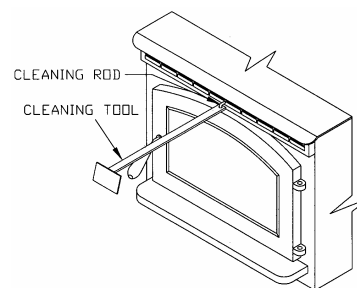

FIGURE 24
- With the door closed clean heat exchanger tubes. (See **"CLEANING"** and Figure 24).
- Heat Exchange Tubes** – Your Breckwell stove is designed with a built-in heat exchange tube cleaner. This should be used every two or three days to remove accumulated ash on the tubes, which reduces heat transfer on the P23. Insert the handle end (with hole) of the cleaning tool onto the cleaning rod (refer to figure 24). The cleaner rod is located in the grill above the stove door. Move the cleaner rod back and forth several times to clean the heat exchanger tubes. Be sure to leave tube cleaner at the rear of the stove.